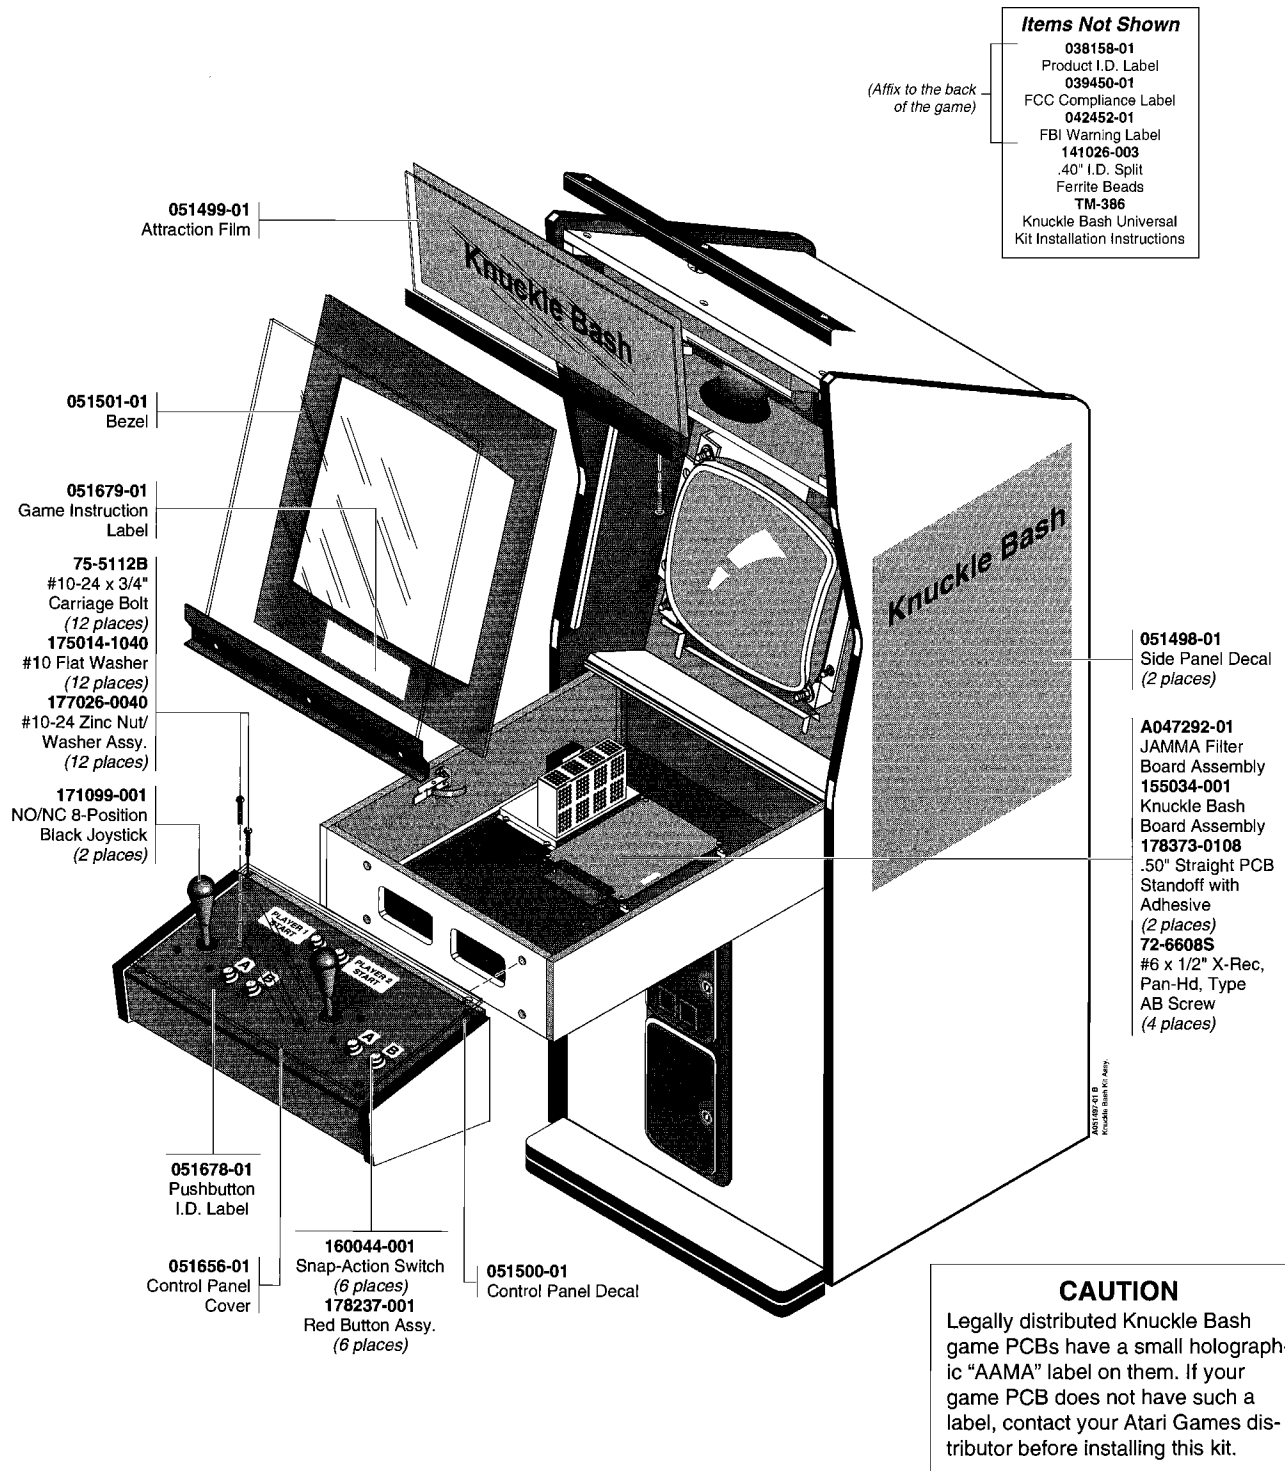

Figure 1-1 Installed Kit Parts
| Figure 1-1 | Installed Kit Parts..... | 1-3 |
Figure 1-1 shows almost all kit parts installed in a typical cabinet. Use this illustration as a guide while you install the parts.
15. Install the button assemblies as shown in Figure 1-1.